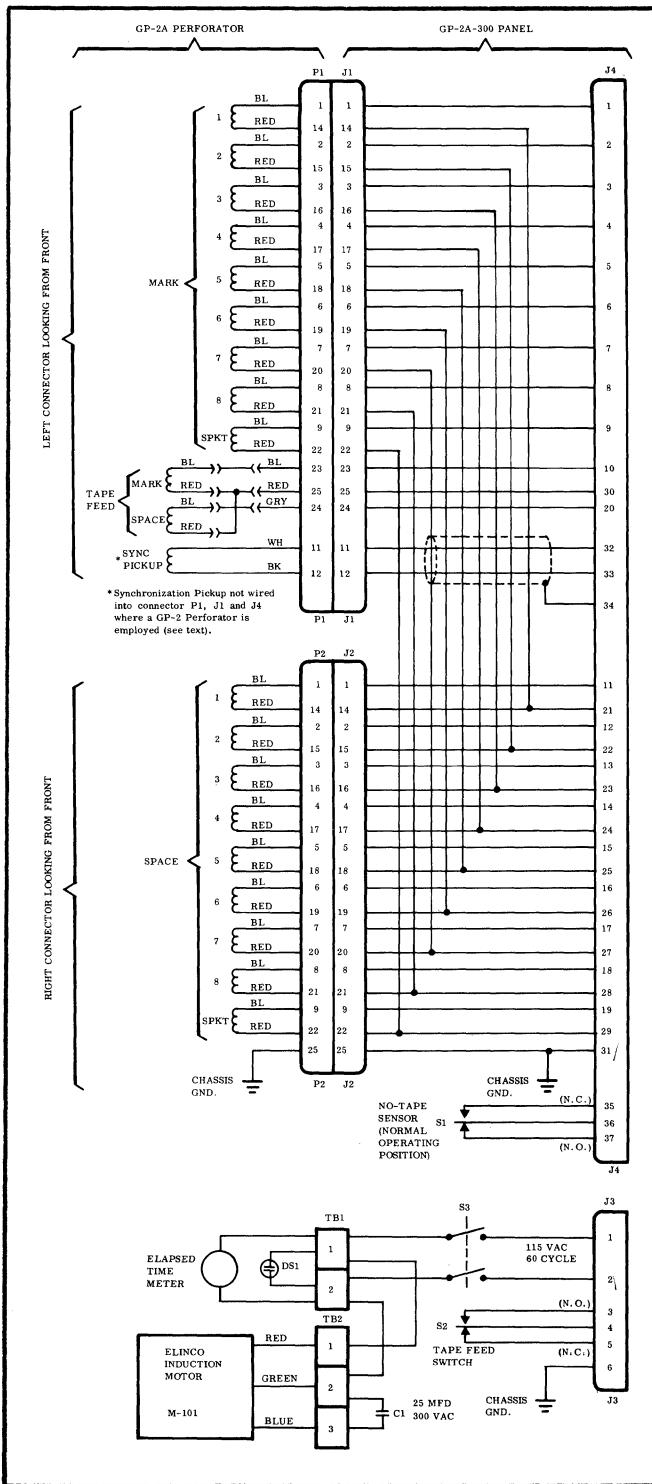

Figure 2-3. GP-2A Perforator, GP-2A-300 Panel, Wiring Diagram
2-10. SYNCHRONIZATION REQUIREMENTS. The data generating system must be capable of accepting the timing signal generated in the reluctance pickup unit. Where a Model GP-2 Perforator is employed, the reluctance pickup is mounted, external to the perforator, in a circular plate attached to the motor mount casting. The timing signal output appears at the two pin connector on the rear of the pickup. The pickup is supplied with mating plug and shielded lead. Where a Model GP-2A Perforator is employed, the reluctance pickup is mounted inside the perforator housing and the timing signal output is wired to pins 32 and 33 of the 37 pin connector J4 of Figure 2-3. The shield on the timing signal conductors is connected to pin 34.
switch circuits (see Figures 2-3 and 2-4). In designing control circuits for integrating the GP-2-300P System with a data generating system, consideration should be given to making use of these switch circuits for warning signals. Under normal operation (when no tape trouble exists) these switches are in the positions illustrated.
- (d) Remove the mating plug from connector J4 and connect the cable conductors, step (c) to the pins indicated in Figure 2-3.
- (f) Remove the mating plug from connector J3 and connect the cable conductors, step (e), to the pins indicated in Figure 2-3.